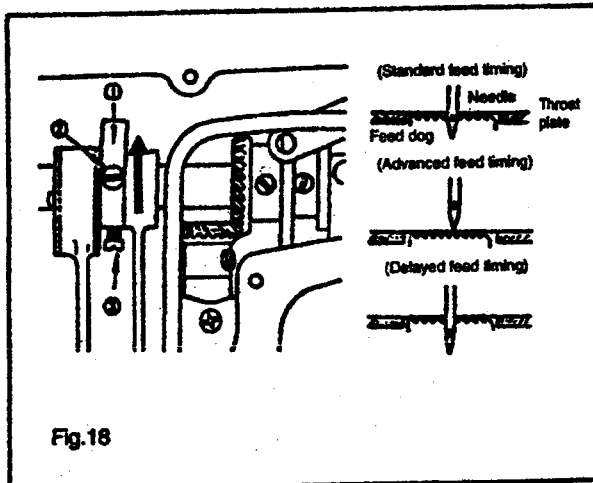

Fig.18
12. ADJUSTING THE FEED TIMING (Fig.18)